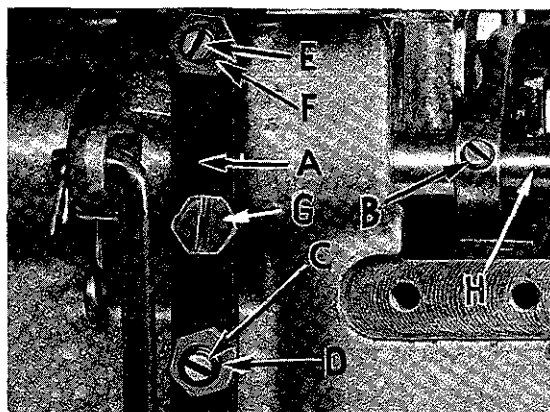

Fig. 15
Assemble the presser foot to presser arm. With needle in high position, swing presser arm into sewing position and set the presser foot to align needle holes (front and back) and flat on throat plate. The front edge of needle hole in presser foot must be aligned with front edge of needle hole in throat plate. It is also important that the bottom of the presser foot be flat on the throat plate. If necessary, presser foot can be realigned with throat plate slots by shifting the foot lifter lever shaft (H, Fig. 15). To move the shaft, loosen collar screws (B, Fig. 15) and clamp screw (G) and then shift the foot lifter lever shaft to the left or right as required. Retighten collar screws and clamp screw.